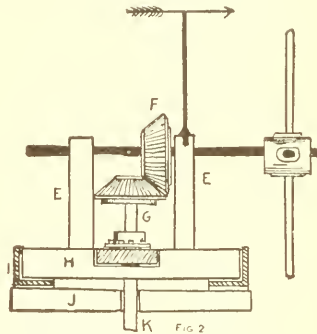

FIG 2
The stand for the wheel shaft is shown in Fig. 2. Arrange the base piece in platform order, (J). This is more fully shown in Fig. 5. On top of this base piece, which is about 36 in. long, place the seat or ring for the revolving table. The circular seat is indicated at L, Fig. 1. This ring is like an inverted cheese box cover with the center cut out. It can be made by a tinner. Size of ring outside, 35 in. The shoulders are 4 in. high and made of tin also. Form the shoulder by soldering the piece on. Thus we get a smooth surface with sides for the mill base to turn in so as to receive the wind at each point to advantage. The X-shaped
2-in. plank, about 3 in. wide, arranged so that the two pieces cross to make a letter X. When the pieces join, mortise them one into the other so as to secure a good joint. Adjust the uprights for sustaining the wheel shaft to the X-pieces as shown at E, E, Fig. 2. These are 4 by 4 in. pieces of wood, hard pine preferred, planed and securely set up in the X-pieces by mortising into the same. Make the bearings for the
The tail board of the windmill is illustrated in Fig. 4. A good way to make this board is to use a section of thin lumber and attach it to the rear upright, E of Fig. 2. This may be done by boring a hole in the upright and inserting the shaft of the tail-piece. In Fig. 4 is also shown the process of fastening a gear, R, to the shaft. The set screws enter the hub from the two sides and the points are pressed upon